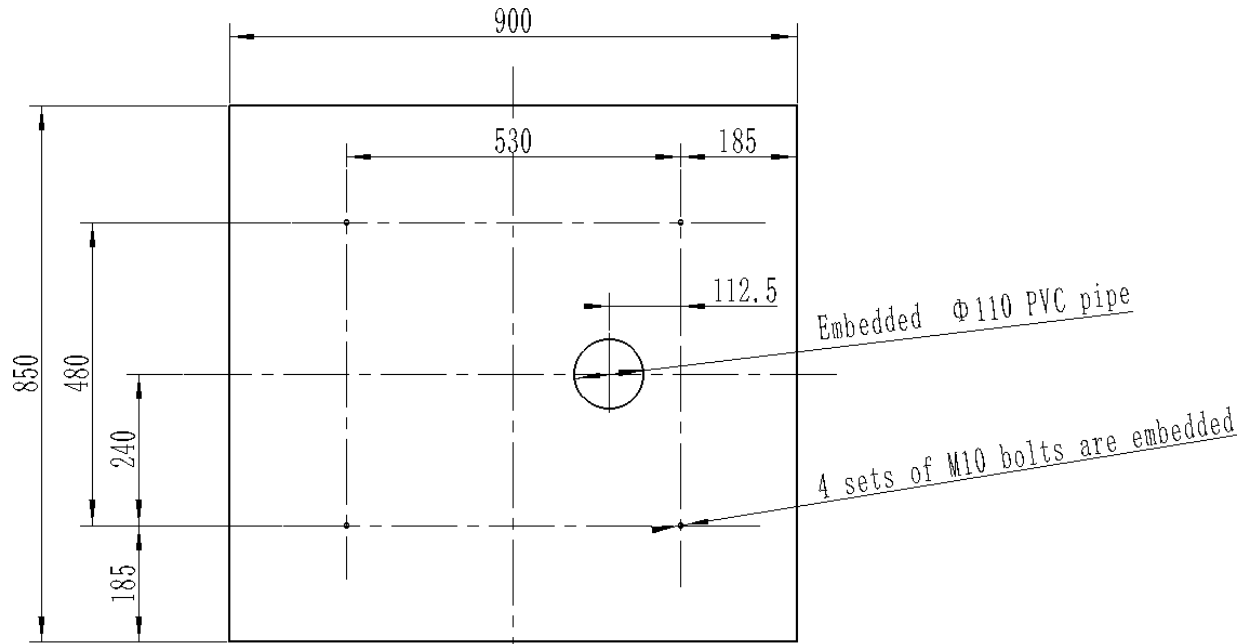

FIG. 1 Top view of charging pile cement foundation
The cement foundation shall be poured before the product is installed. The size of the concrete foundation is 900mm\*850mm\*600mm, and the buried depth of the foundation is 400mm, which is 200mm higher than the ground height. The design of concrete foundation can be adjusted according to the requirements of customers and the actual situation on site. The top view is shown in Figure 1.
- (1). Pay attention to the correction level when pouring the foundation.
- (2). The foundation installation is higher than the ground level, and the necessary maintenance channels are reserved on the site depending on the specific space.
- (3).The drain on the foundation surface is slightly inclined to avoid standing water.
- (4). The foundation is filled with C20 concrete. Reserve an outlet hole on the foundation for cable, as shown in the Figure1.
- (5).After the foundation is completed, use a level to test the levelness.
- (6).4 M10 screws with length L=250 were used for fixed embedding. The screws were embedded